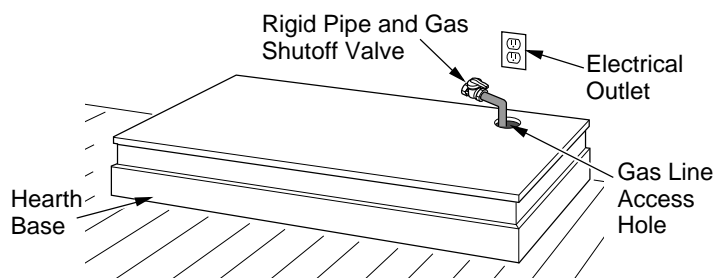

Figure 9 - Placing Hearth Base Accessory Against Wall
2. When installing blower, install a properly grounded, 120 volt three-prong electrical outlet at fireplace location if an outlet is not there. If possible, locate outlet so cabinet mantel will cover it when installed (see Figure 9).
4. Place hearth base accessory against wall at installation location. Cut an access hole in hearth top to run flexible gas line to fireplace (see Figure 9). Make sure to locate access hole so cabinet mantel will cover it when installed. **Note:** You can secure base to floor using wood screws. Countersink screw heads and putty over.